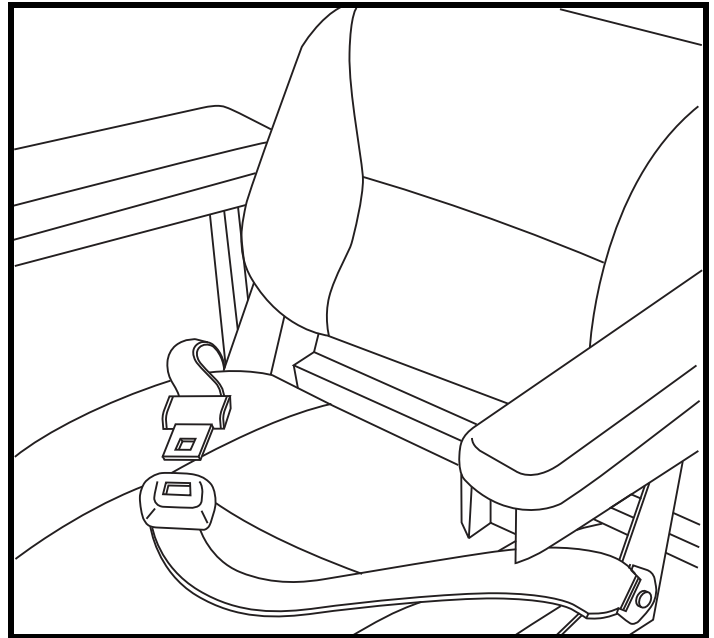

Figure 25. Positioning Belt Adjustment
Your power chair may be equipped with a positioning belt that can be adjusted for operator comfort. See **figure 25**. The positioning belt is designed to support the operator so that he/she does not slide down or forward in the seat. The positioning belt is not designed for use as a restraining device.
1. Once seated, insert the metal tab on one side of the belt into the plastic housing on the opposite side until you hear a click. See **figure 25**.